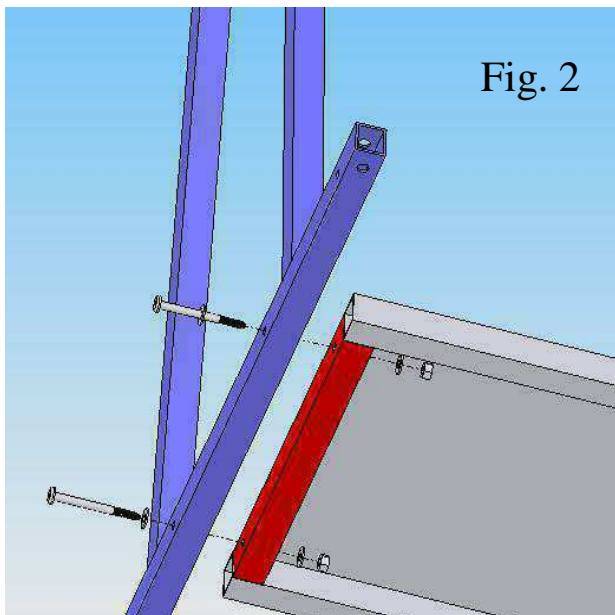

Fig. 2
1. Attach A-Frames to the Dolly Floor as shown. Use a long bolt, two washers, and a lock nut at each of the four positions as shown in Fig. 2. Make sure that the angle brackets at the top are positioned as shown in Fig.3.